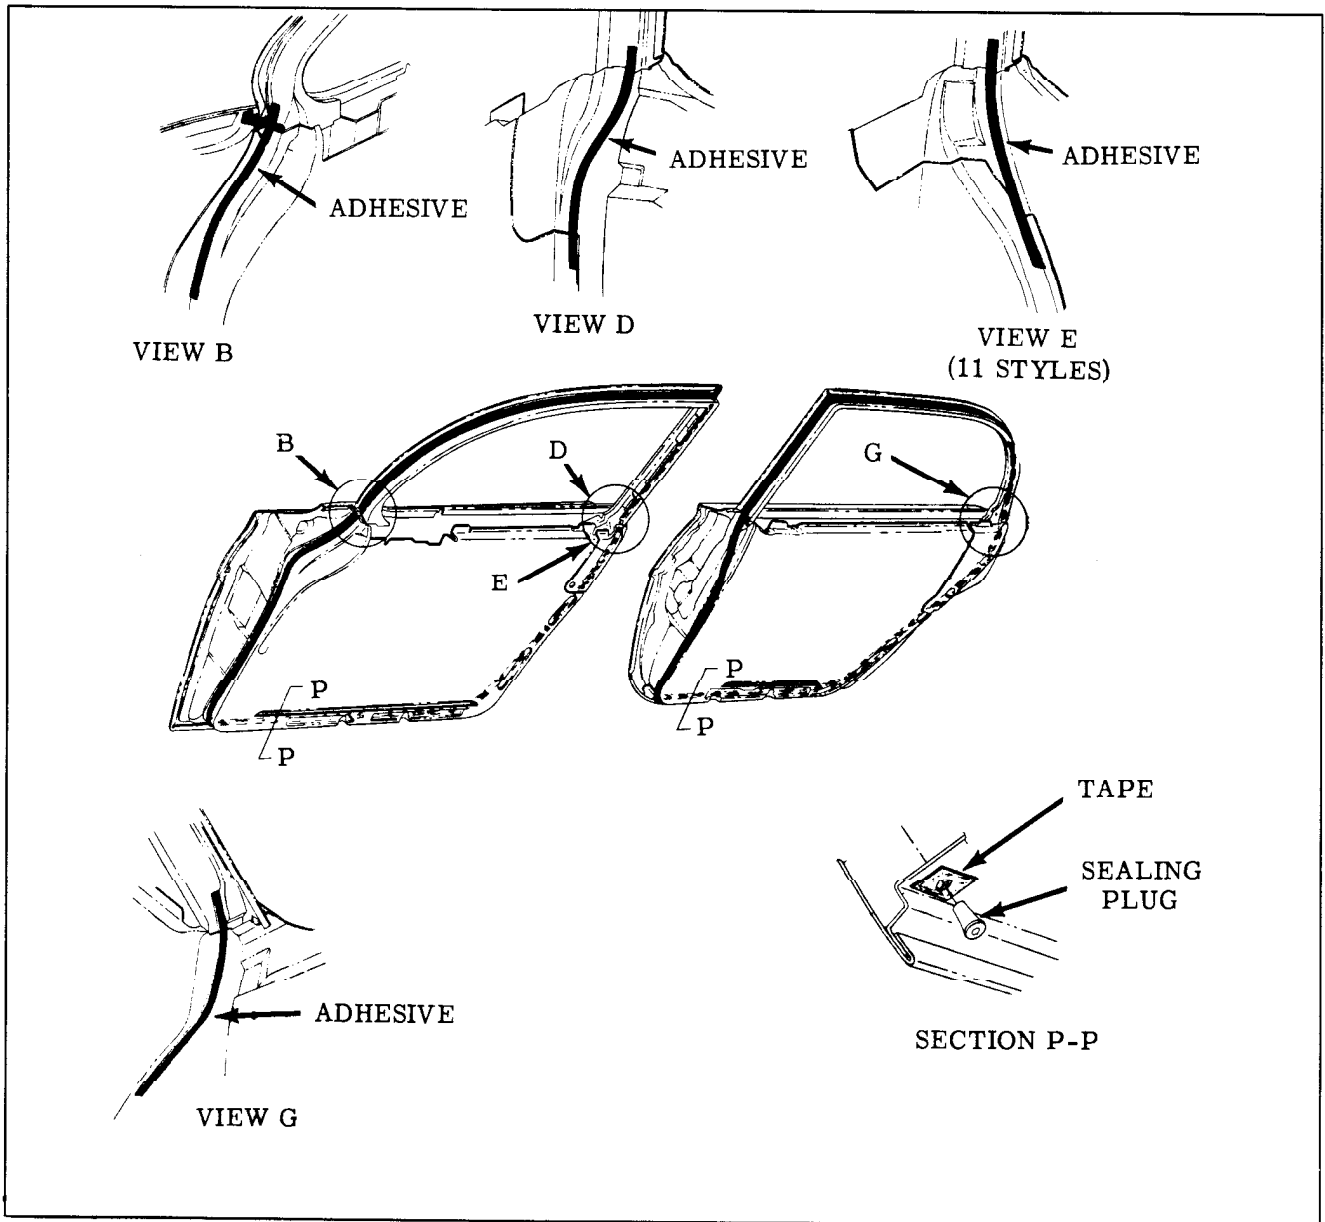

Fig. 17-16 Door Weatherstrip (Typical of "11", "19", "35", "45" and "69" Styles)
2. On front doors, carefully break cement bond securing weatherstrip to door lock pillar facing. On rear doors, carefully break cement bond securing weatherstrip to door hinge pillar and lock pillar facings. (Fig. 17-16 Views "B", "D" and "G") Then remove weatherstrip from door.
2. Check all attaching hole sealing plugs. If sealing plugs are loose and will not remain engaged in door inner panel, install a 1/2" x 1" piece of cloth backed waterproof body tape over sealing plug retaining hole. (Section "P-P", Fig. 17-16) Make two 5/16" slits in tape to form an "X". Install plug and check for a snug fit. If plug is still loose, repeat above operation by installing a second piece of tape over existing repair. This procedure may also be used to repair waterleaks which may develop at sealing plug locations.